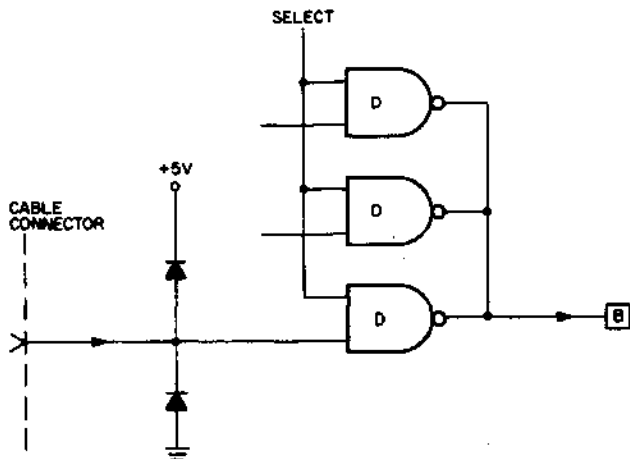

Figure 2. Typical Input Circuit
**Bus Drivers:** The bus drivers on the M1621 are arranged in separately enabled groups of input words. A 12-bit word normally transfers the DVM's range and function data outputs. Another 16-bit word transfers the first four digits of data output. The third six-bit word might represent the fifth digit of data output plus the overrange and polarity outputs. Each word can be strobed to the computer bus by signals created by the M105. The output circuits consist of bus drivers connected in a wired-OR arrangement as shown in Figure 2. Note that input lines from the DVM are protected by clamping diodes to prevent input signal swings above or below the normal TTL levels.